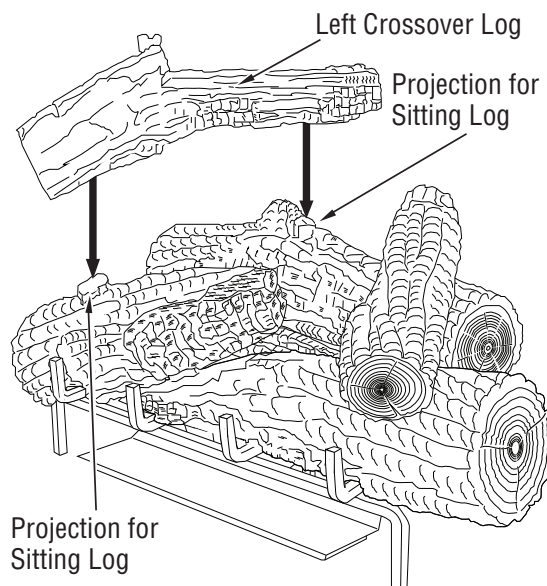

Figure 54 - Installing Left Crossover Log
6. Place the left crossover log onto the rear log and the left front log as shown in **Figure 54**. The left crossover log has notches in the bottom that will line up with the projections on the rear log and the left front log.